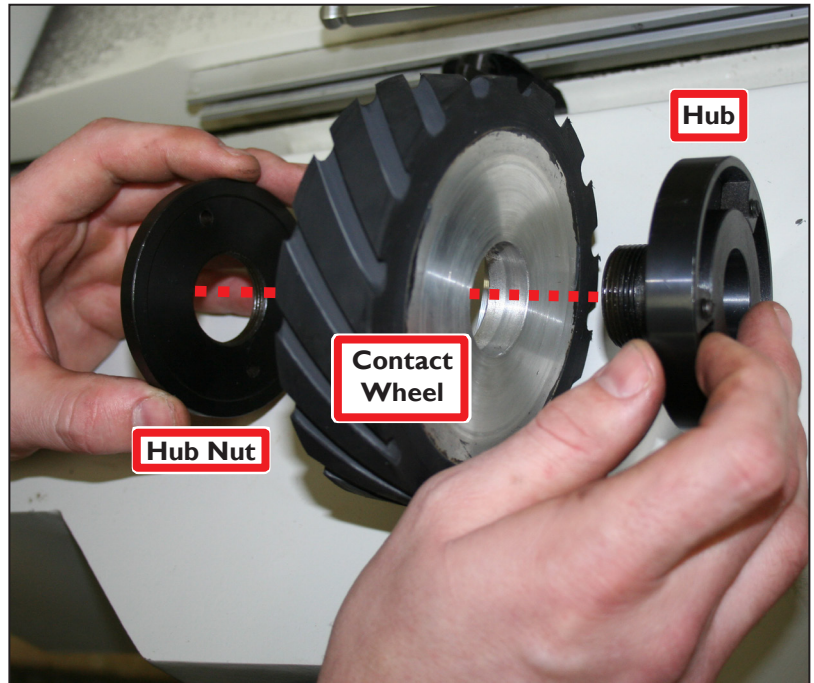

Figure 3
3. Connect Hub, Contact Wheel, and Hub Nut as shown in **Figure 3**.